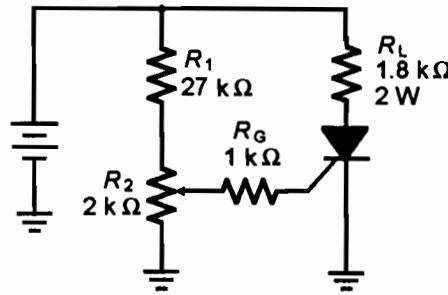

Figure 66.1
- Construct the circuit of Figure 66.1. Set potentiometer  $R_2$  so that the output voltage to the gate will be 0 V (wiper to ground).